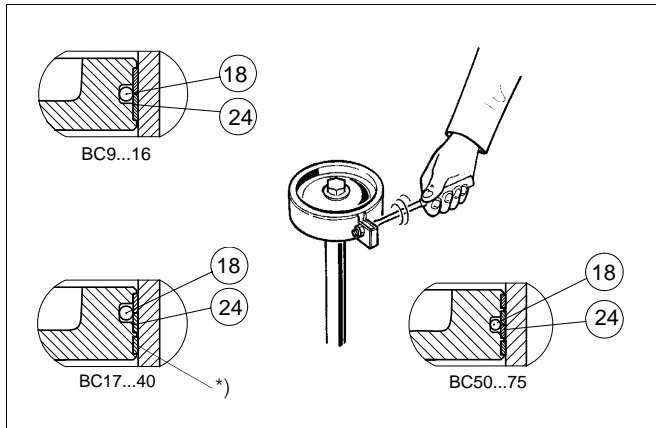

Fig. 10 Tightening piston seals with a tie ring
- ❑ Place the O-ring (18) under the piston seals.
- ❑ Locate the seals (24) around the piston so that the ends of the strips come on opposite sides. Tighten the strips with the tie ring as shown in Figure 10. The strips marked with an asterisk (*) may be cut 1.5-3 mm shorter to facilitate assembly.